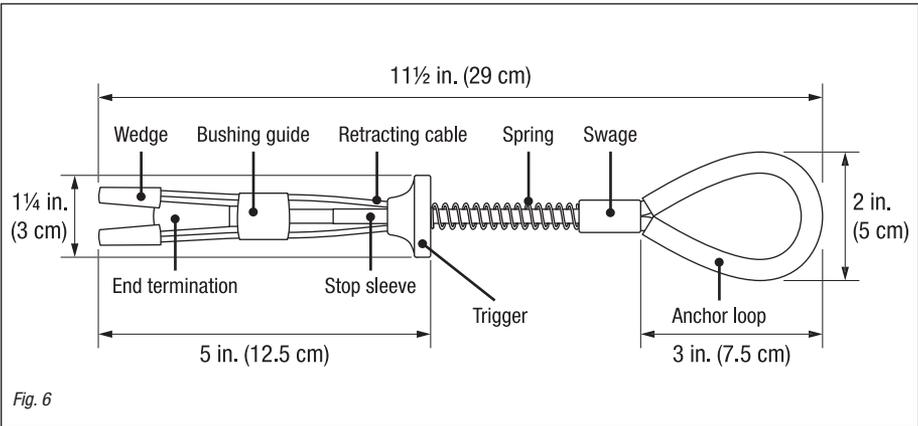

Fig. 6
- 8.3 The Fallpro Wedge Anchor should be inspected before each use to ensure that (Figure 6):